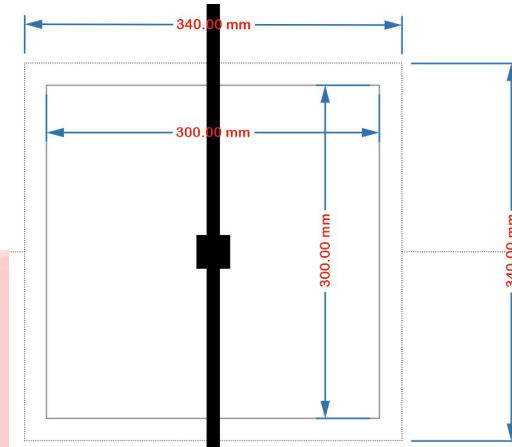

Figure 4: Lift Section Dimension
- The size of the lift section is shown in Figure 4
- **Lift section** - with one node as shown in Figure 4. Keep this lift section on lift base for robot's locomotion.